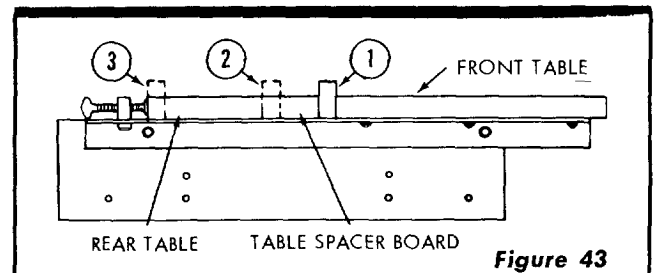

Figure 43
6. There are three positions in which the fence can be located. (See figure 43.)
- a. Normal position (1, figure 43.)
- b. Position used for maximum cross-cut on 1-inch material and for greater bevel and miter capacity (2, figure 43).
- c. Position used for maximum "out-rip" capacity (3, figure 43).